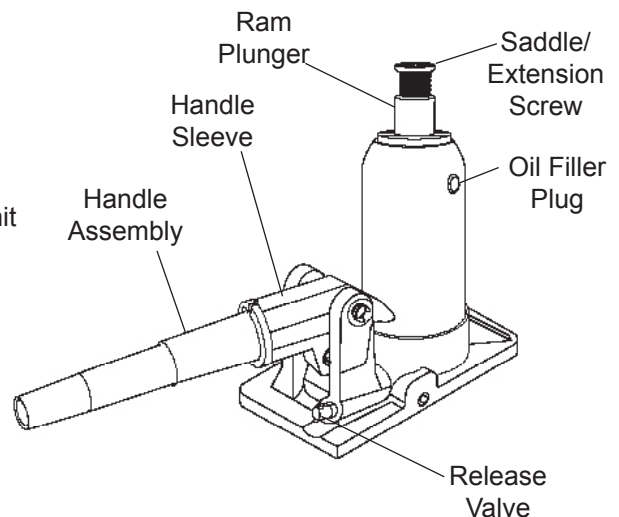

Figure 2 - Hydraulic Unit Components
1. Verify that the product and the application are compatible, if in doubt call Hein-Werner Technical Service (816) 891-6390.
4. To familiarize yourself with basic operation; position the hydraulic unit upright as shown in Fig. 2., assemble the handle, locate and engage the release valve with the slotted portion of the provided handle, then turn the release valve:
6. Place the hydraulic unit (Fig. 2) into the hydraulic unit holder located beneath the tool tray. Position the unit such that the saddle mates with the provided indentation. Adjustment of the saddle extension screw may be necessary.